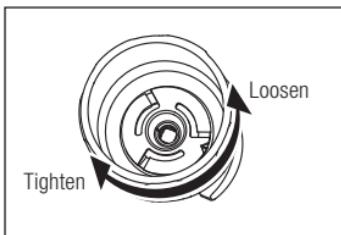

Fig. 2
- 2) Locate the tip wrench aligning with the square portion of the tip. Next, tighten the tip wrench (anticlockwise) until it turns freely and clicks (Fig. 2). At that time, hold the handpiece so as not to kink the handpiece cord.
To remove the tip, use the tip wrench and turn (anticlockwise) in the "Loosen" direction in Fig. 2.